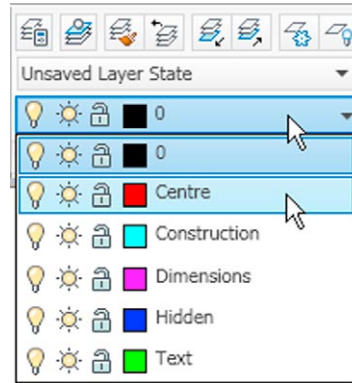

Fig. 7.5 Making the layer **Centre** current from the **Home/Layers** panel
4. In the **Home/Layers** panel in the **Layer** list *click* on **Centre** to make it the current layer (Fig. 7.5). All lines will now be drawn as centre lines.